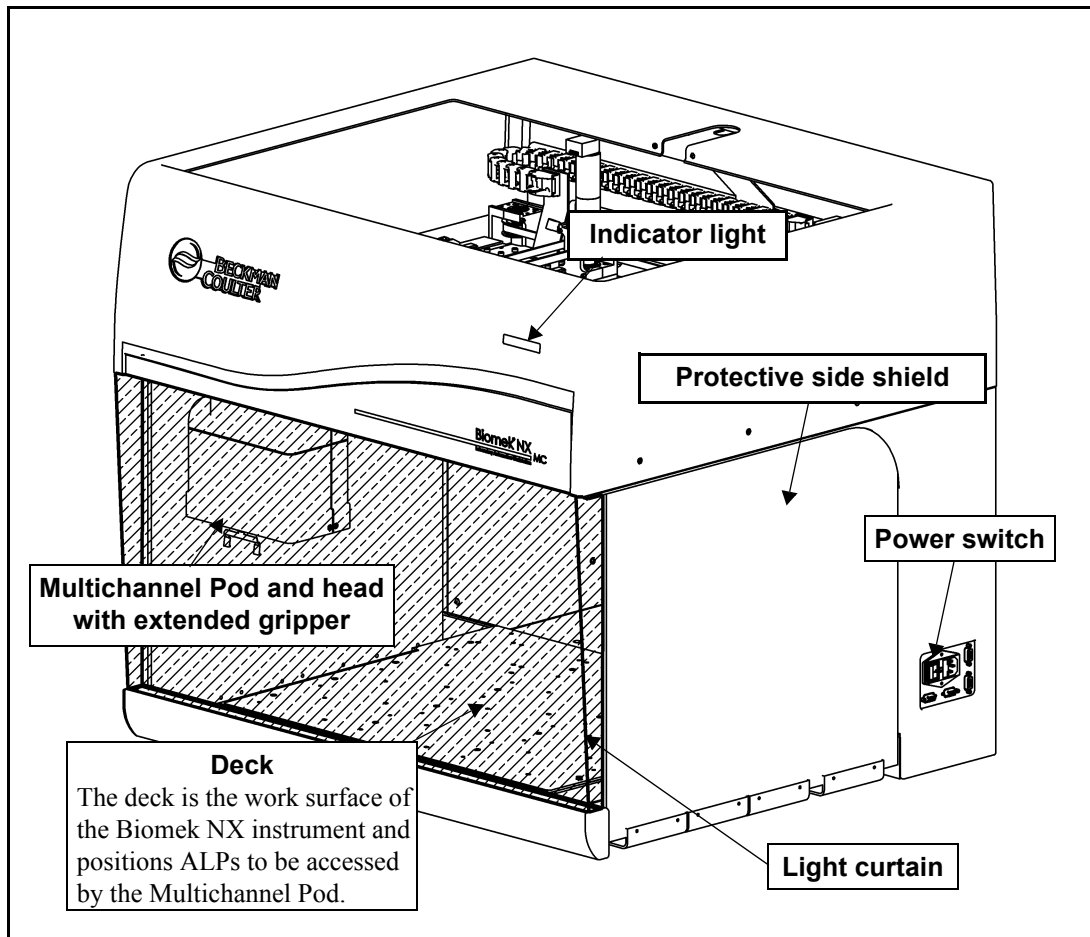

Figure 1-1. Biomek NX with Multichannel Pod
The Biomek NX (Figure 1-1) is a multiaxis instrument designed with an open architecture to allow expandability of the system. The design provides a foundation for interchangeable specific-use components, such as the 96-and 384-Channel Heads and a variety of ALPs (refer to Section 1.2.1, Automated Labware Positioners \(ALPs\)), and for integrating additional devices, such as detectors and washers. A gripper is installed on the Multichannel Pod for grasping and moving labware.
1. Locate the power switch on the right side of the instrument (Figure 1-1).